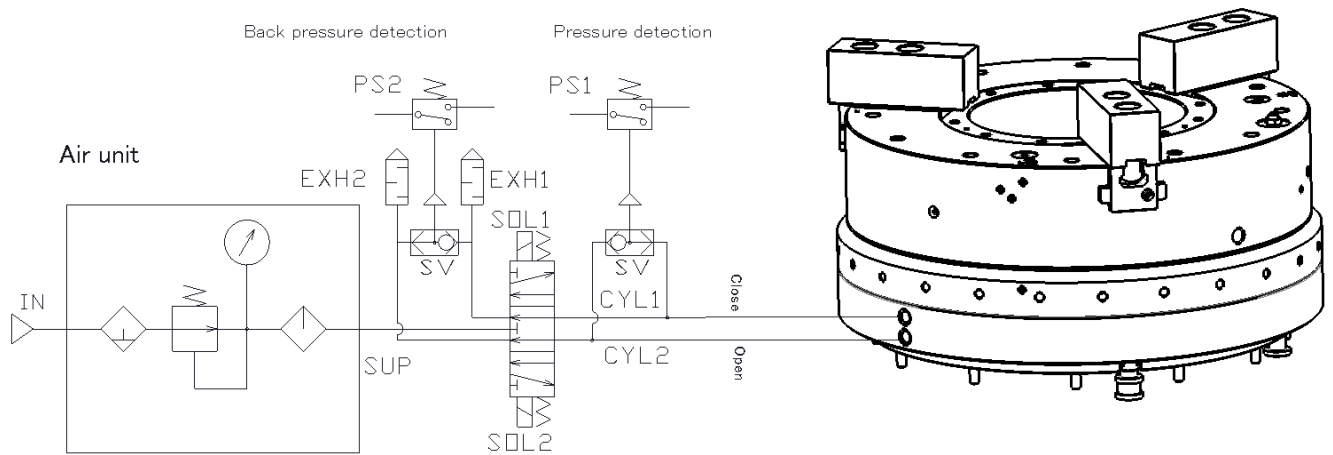

Fig.16
For the air circuit diagram, refer to Fig.16.
- If the spindle is rotated when back pressure is present, the diaphragm packing will be damaged and the gripping force will be lost, causing the workpiece to fly out. Exhaust detection must be performed as shown in Fig.16 and the circuit must be designed so that the spindle cannot be rotated when back pressure is present.